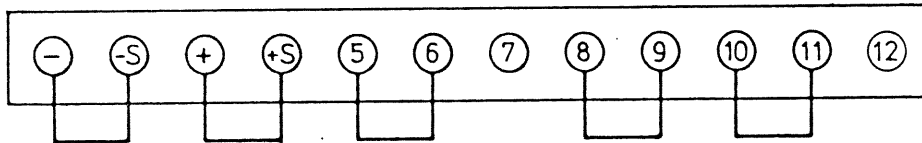

Figure 2-1
- o Make sure that the jumpers of the terminal blocks on the rear panel are securely connected as shown in Figure 2-1.